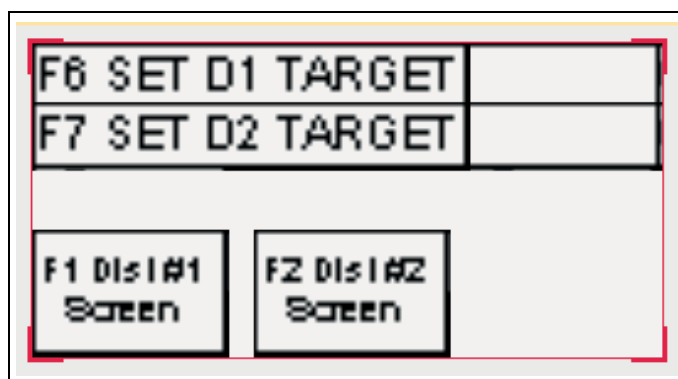

Figure 5Z
13. Press **F3 Yes** to finish homing the spout. After pressing F3, the screen will appear as in Figure 5Z.